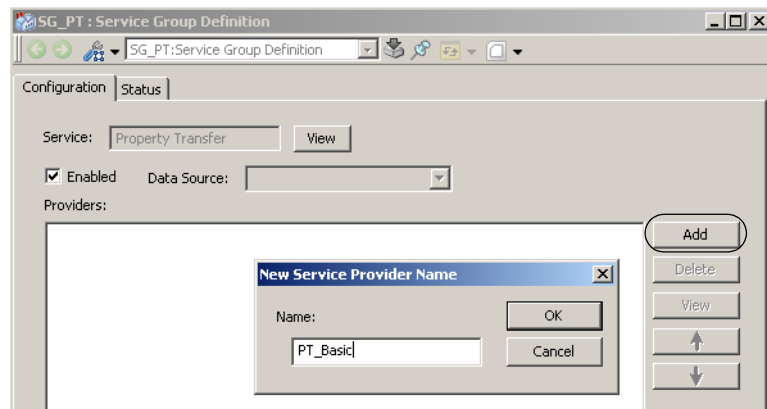

Figure 296. Add Provider Dialog Box
7. Click the **Add** button to add a provider and enter a **Name**, for example PT_Basic, see Figure 296 below.